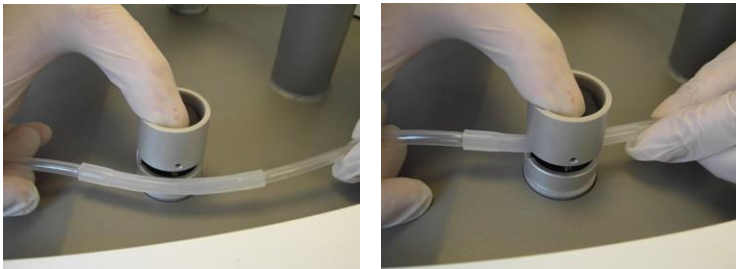

Figure 3-89. Inserting the Implantation Tube's Thick Inset into the Right Electrovalve's Slot
14. Push (and hold) the electrovalve while inserting the implantation tube's thick inset into the electrovalve's slot, as shown in Figure 3-89.